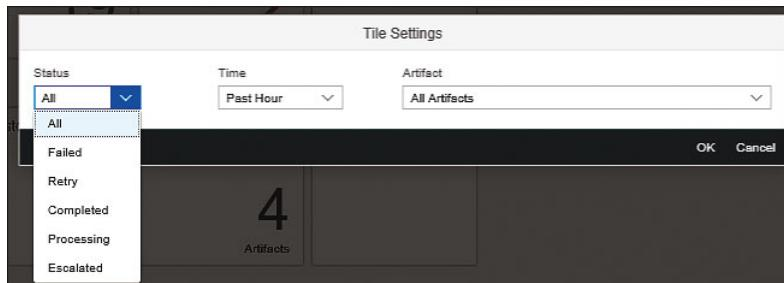

Figure 8.21 Creating a New Message Monitoring Tile
2. A new **Tile Settings** popup screen appears, from which you can specify the filtering criteria to be applied on past runtime messages. Figure 8.21 shows how to select the **Escalated** option from the **Status** dropdown menu.